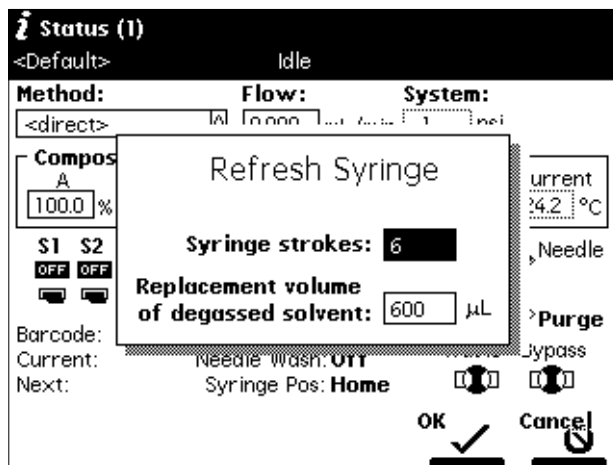

Figure 1-20 Refresh Syringe Dialog Box
4. Select the **Refresh Syringe** option, then press **Enter**. The Refresh Syringe dialog box appears (Figure 1-20).